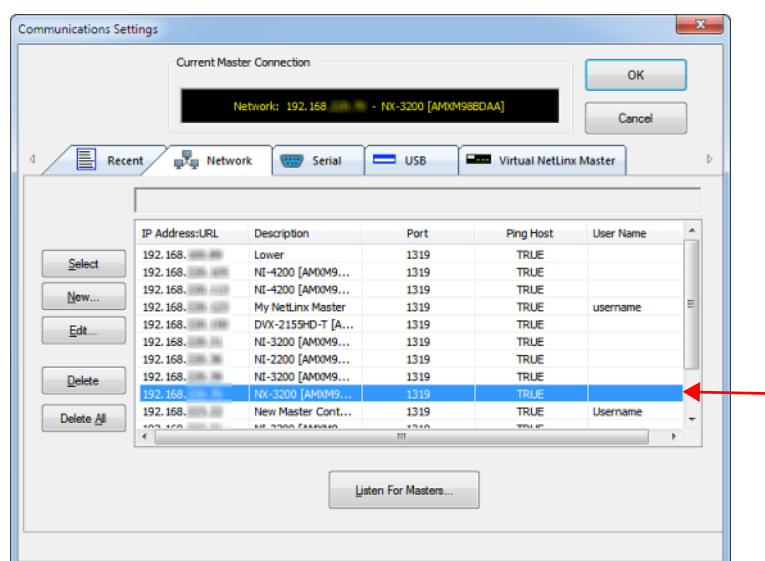

FIG. 19 NetLink Studio - Communication Settings dialog
6. Click **OK** to close the *New TCP/IP Settings* dialog and return to the *Communication Settings* dialog: (FIG. 19).